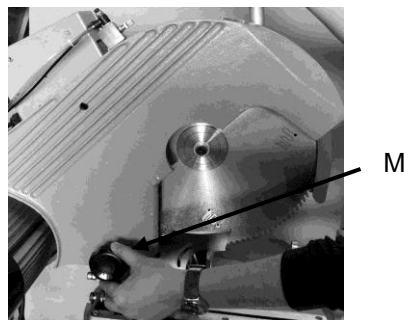

Fig 13
1. If the arm is locked in its lowered position, release it by unlocking knob M (Fig 13) and guide it to its raised idle position.